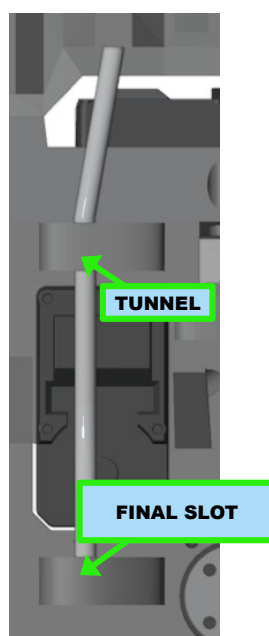

Figure 5.33: Inserting the tube into the pass-through tunnel and then into the final slot (rear view)
2. Insert the other end into the pass-through tunnel and then into the final slot (figure 5.33).